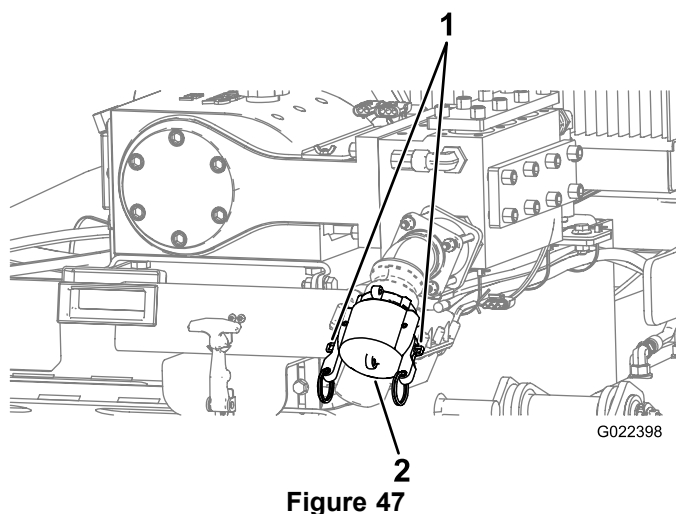

Figure 47
1. Raise the cam-lock levers on the pump-inlet cap and remove the cap (Figure 47).